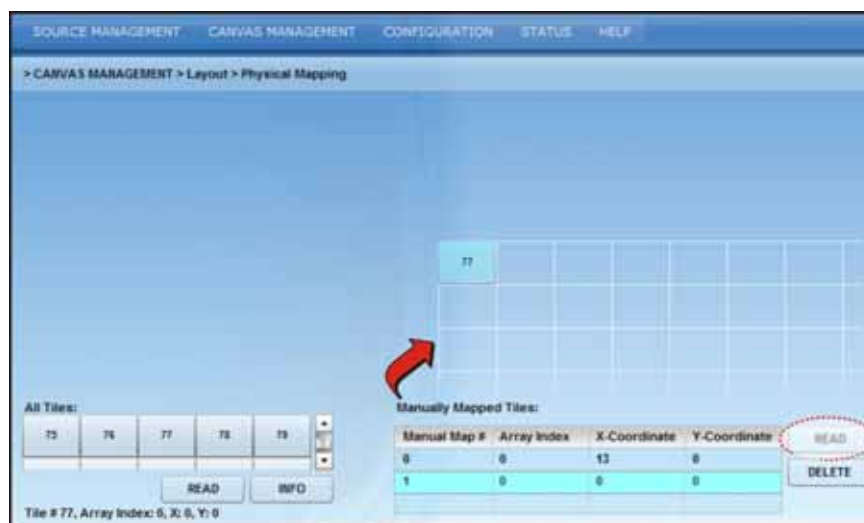

Figure 3-23 Manually Mapped Tiles
3. Click **Read** from the **Manually Mapped Tiles** section to load all previously saved information from the master ECU. This spreadsheet displays all the manually mapped tiles. To select a specific manually mapped tile click on it from this spreadsheet. Once selected the manually mapped tile in the spreadsheet is selected, as well as the corresponding tile in the All Tiles section, and the selected tile is centered in the main grid (**Figure 3-23**).